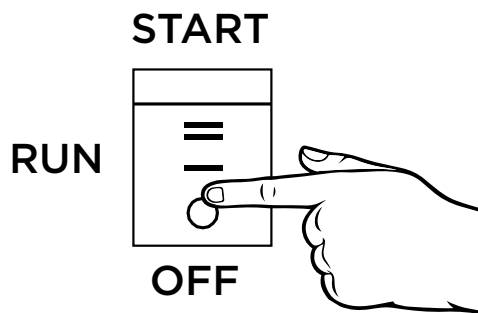

Figure 13 - Move engine switch to OFF
3. Position the engine control switch to **OFF** (see figure 13).